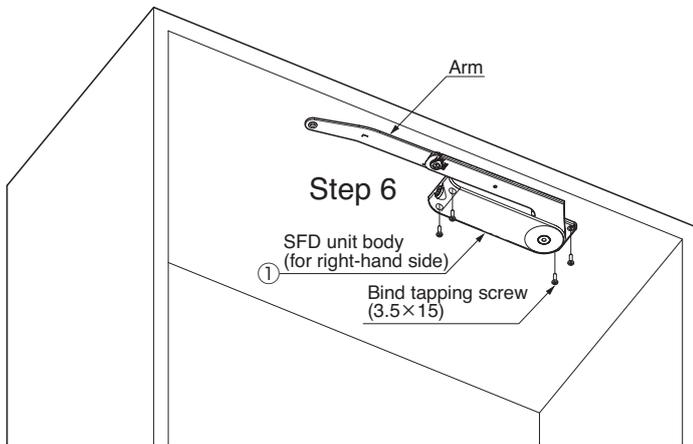

Fig. 6. Installation of unit body
- step3 Adjust the arm length when the adjusting dial point is set at the "Free" position (Table 2 and Fig. 6). For adjusting set the edge of the bottom arm to the numeral marked line shown on the inside end of the top arm.
- step6 Put the unit body ① the arm length of which has been adjusted according to the door width on the specified position of the inside surface of a cabinet (As for the mounting dimensions refer to Fig. 2 and Table 2) and fix it with the attached bind tapping screws (3.5x15) (Fig. 6).